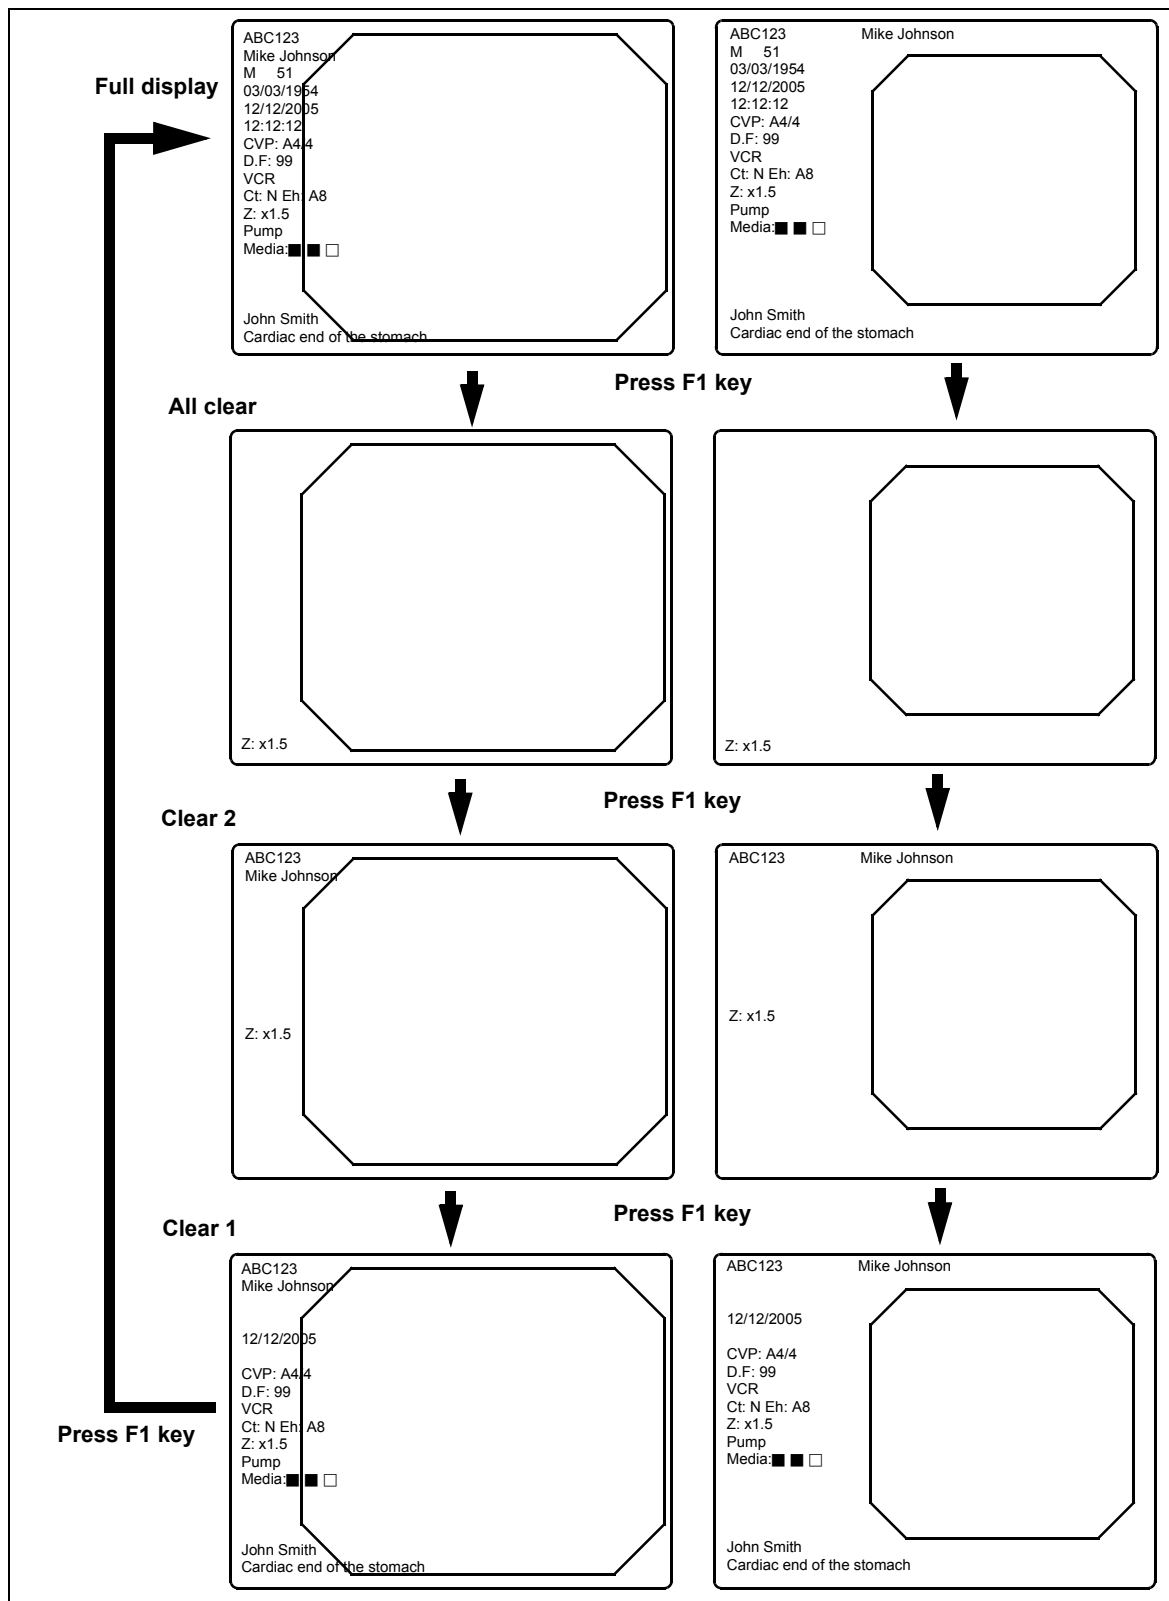

Figure 5.20
Part of the patient data disappears from the monitor screen each time the "F1" key is pressed. The fourth press redisplayes the initial display showing all patient data (see Figure 5.20 for the transition of the display).
- The image size and layout may differ from those shown in Figure 5.20 depending on the connected endoscope.